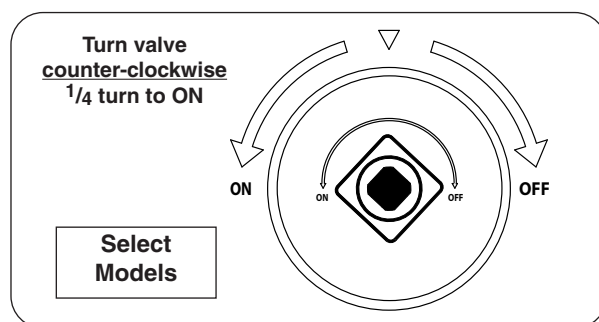

Fig. 39-2 ON/OFF key valve detail
2. If equipped, turn the ON/OFF key valve counter-clockwise a 1/4 turn to the **ON** position (Fig. 39-2).